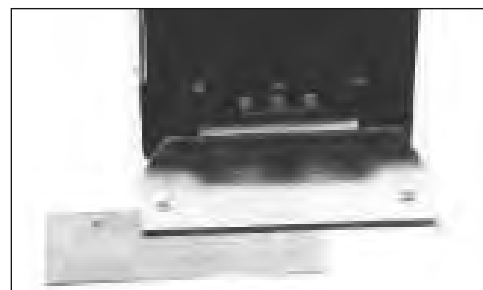

FIG. 4
- Blades can be offset in cutting head for easier access to toe kicks or removal along the wall (Figure 4).